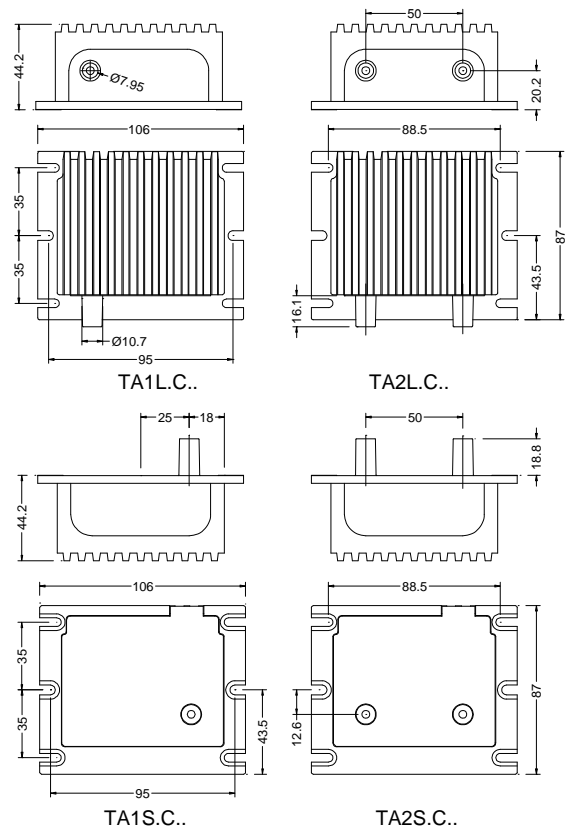
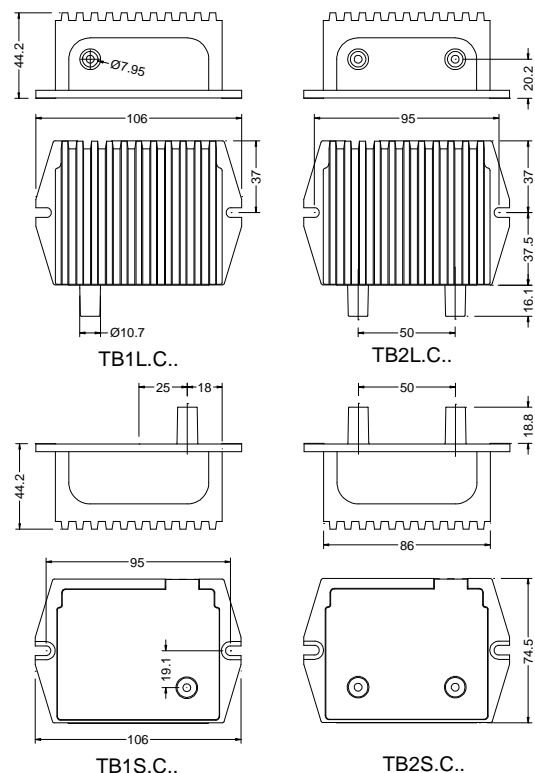

Fig. 1
Fig. 2
- C: output with cable (Fig. 1 and 2);
- L: lateral isolators (Fig. 1 and 2);
S: bottom isolators (Fig. 1 and 2);
The figures on the right side of this page show the main overall dimensions of the transformers. In particular, Fig. 1 illustrates types TA, whereas Fig. 2 refers to types TB. The transformers can be fixed by means of screws type M4x10.